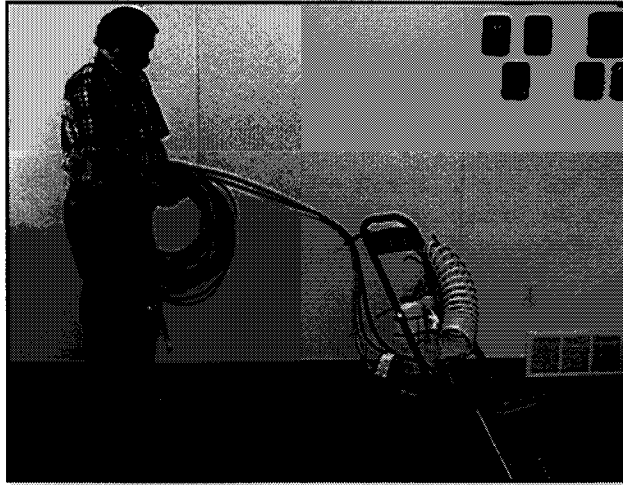

FIG.5-Rolling out hoses
- Rolling Out (figure 5):** This is when you use your arms like a hose reel.